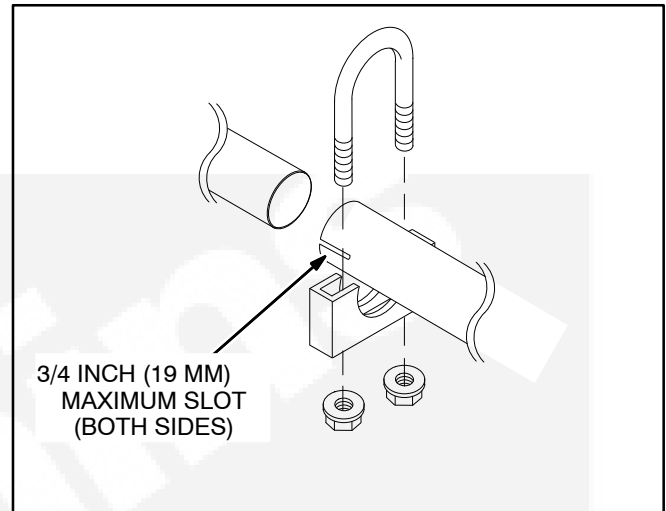

FIGURE 8. EXHAUST TAILPIPE CONNECTIONS
3. Use U-bolt muffler clamps to connect sections of tailpipe. It is recommended that the overlapping pipe be slotted as shown in Figure 8.